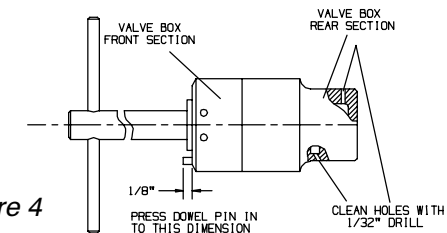

Figure 4
- f. Slide the rear section of the Valve Box over the Valve and assemble it on the front section as shown in Figure 4. Lap the Valve until it fits freely in the assembled Valve Box.